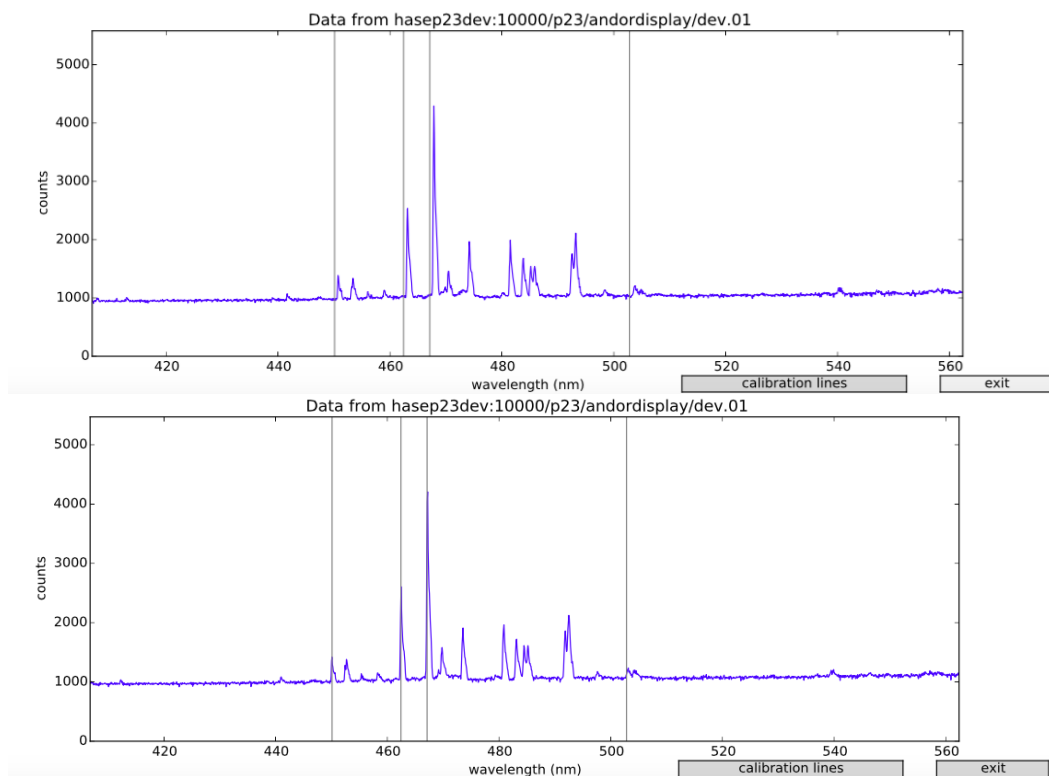

Figure 2: Spectrum of the test lamp with a slightly incorrect calibration and with a grating-offset correction (lower frame).
lamp as a reference. Fig. 2 demonstrates a small correction of that offset, as it was necessary after the delivery. The offset is saved in a nonvolatile memory integrated to the device, so that those offset values will be the same after power off or connecting to a different PC.
- **AndorDataCalibration** sends an array of float values - these are used to store the wavelength for each pixel (equal to the x-axis of the plots like in Figure 2).
Using these functions, a simple tool for viewing data and saving them was created: *Andor Display* . Figure 2 and 3 are actually screenshots of that tool. Moreover, the script saves all the data in textfiles, hdf5 files and also as a row of screenshots in a pdf file.